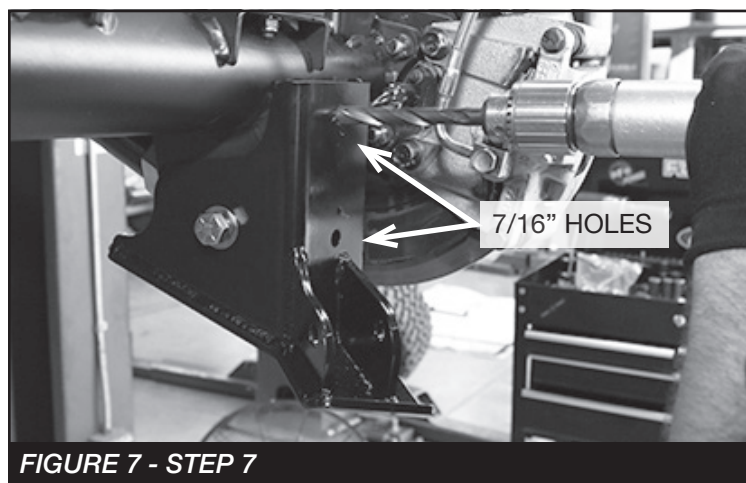

FIGURE 7 - STEP 7
7. Using a 7/16" drill bit. Drill out the (2) holes on the factory mount using the new Fabtech bracket as a guide. **SEE FIGURE 7**